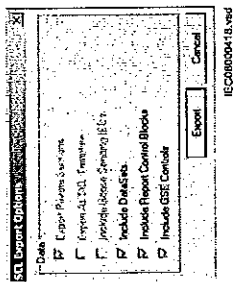

Figure 67: IEC 61850: Export IED file Options
4. Select *Export Private Sections*, *Export As SCL Template* or *Include Goose Sending IEDs* and click *Export*, see Figure 67. Note that the options in *SCL Export Options* window according to Figure 67 is only available when an ICD file is exported.